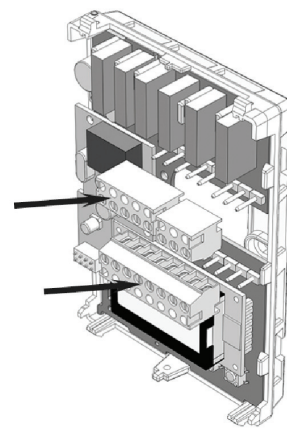

Figure-3 Terminal Block Reinstall
11. Reinstall wiring terminals in correct locations (Figure-3).